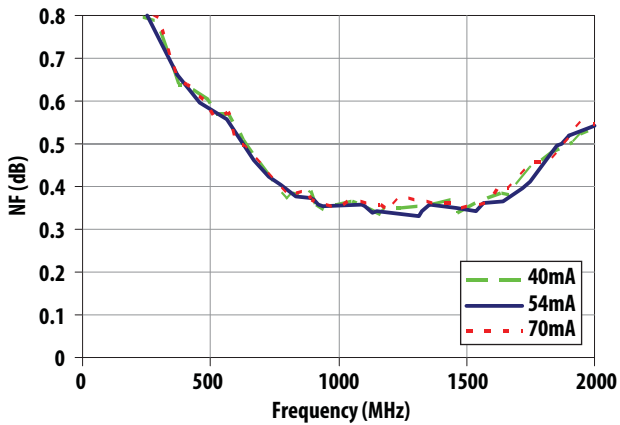

Figure 30. NF vs Frequency vs Idd
2. Scattering and noise parameters are measured on coplanar waveguide made on 0.010 inch thick ROGER 4350. The input reference plane is at the end of the RFinpin and the output reference plane is at the end of the RFOutput pin as shown in Figure 30.